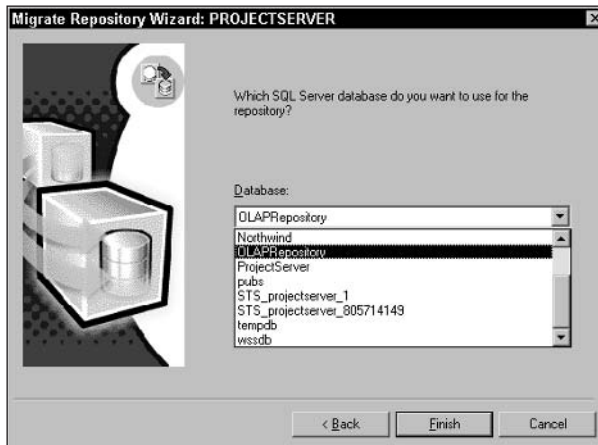

Figure 19-51: Select the SQL database that you created.
7. Click Next, select the database that you created in the preceding set of steps (see Figure 19-51), and click Finish.